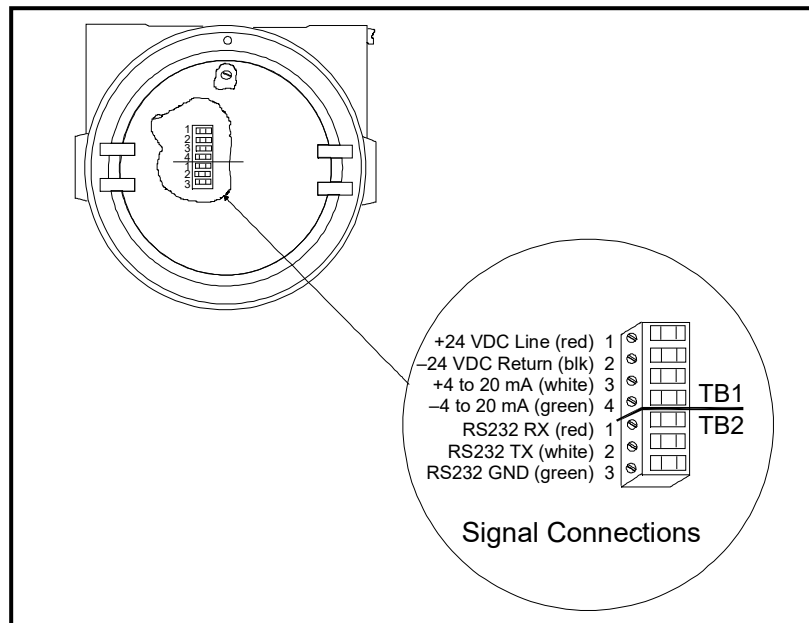

Figure 8: Wiring Connections to TB1 Block
2. Unplug TB1 on the XMTC transmitter PC board (PCB) by carefully pulling it directly up without bending the pins attached to the PCB. See *Figure 8* below.